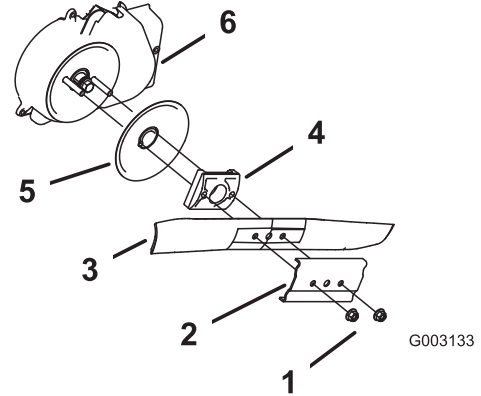

Figure 31
3. Remove the 2 blade nuts and the stiffener (Figure 31).
4. Remove the blade (Figure 31).
5. Remove the blade driver and the anti-scalp disk (Figure 31).
6. Remove the blade-brake-clutch shield (Figure 31).
10. Install the blade and the stiffener with the 2 blade nuts that you previously removed (Figure 31).